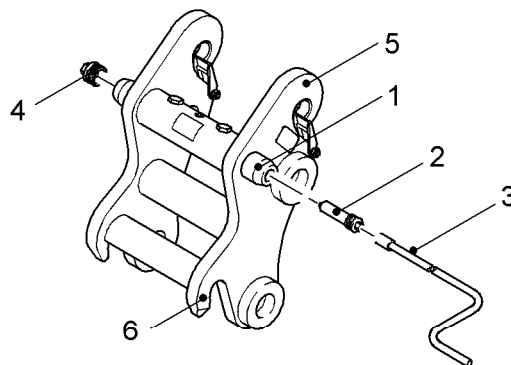

Fig. 3-102 Mechanical quick-change adapter
- ▶ Approach the quick-change adapter from the side and unscrew the locking screw **2** using the crank **3** from the locking pin **1** (siehe Fig. 3-102).